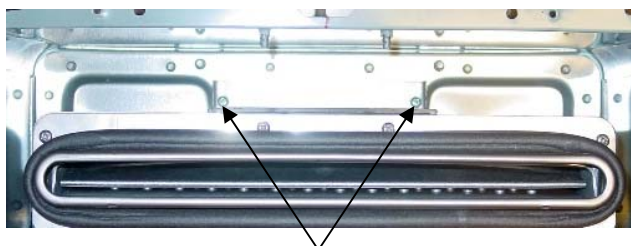

Figure 4 Top attachment screws
14. Remove the 4 screws connecting the heat exchanger to the casing. (Figures 4 and 5)
25. Install the 4 screws at the top and bottom of the heat exchanger to the casing. (Figures 4 and 5)